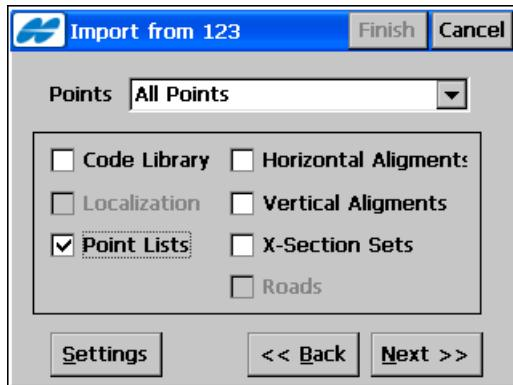
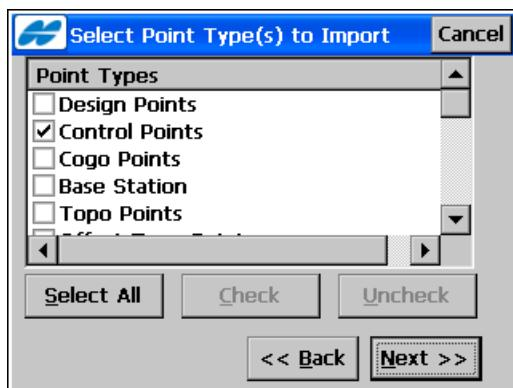

Figure 5-3. Import From Job
Figure 5-4. Select Point Type(s) to Import
On the ***Import from <name of Job>*** screen, select the data to import and, if necessary, filter the imported points (see Figure 5-3).
- **Select Point Type(s) to Import** if the points are filtered *By Type* (see Figure 5-4 on page 5-4)
On the *Select Point Type(s) To Import* (Figure 5-4), select the types of points to be imported; only if the *Code Library*, *Localization*, or *Roads* box is check marked and if the *points filter by type* has been enabled in the **Import From Default** screen. Place a check mark next to the point type that you want (Figure 5-3 on page 5-3).